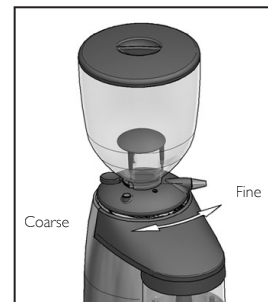

Fig. 3
Connect the machine to the power supply, press the On-Off switch (14 Elite -10 Touch) and open the shutter (4) to let the coffee through. Remove the dispenser lid (8) and turn the grind regulator (6) to the required grind setting. By turning it clockwise, the coffee grind will be coarser and turning it counter-clockwise, the grind will be finer. Note that you should only change grind settings when the machine is on and burrs are in motion. If you do not do this, the burrs will gunk up and cleaning will be required. Changing the grind settings when the burrs are not in motion will cause the grinder to only make very coarse grinds or no grinds at all. Fig. 3.